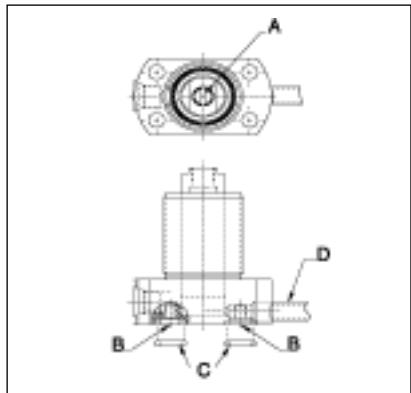

Figure 2
- Install the work supports by either threading into the fixture, using the accessory jam nuts, or bolting the flange onto the fixture. Mount the work support so that the plunger is at the approximate middle of its stroke when contacting the workpiece in the fixture. If the work support is to be hydraulically manifold mounted to the fixture through the bottom port, the port screw plugs and copper gaskets must first be removed (see item B, Figure 2). Lubricate the provided o-rings and install them (see Figure 2) in the counterbore around the port prior to mounting and bolting down the work support. Be sure that the o-rings do not get pinched or damaged during this mounting as leakage could result. To ensure that the manifold mounting does not leak, provide a fixture mounting surface with flatness within .003 inch (0.08 mm) and a surface roughness not to exceed 32 *uin. rms.* (*Ra 0,8*).
- When there is a risk of machining coolants, debris, and chips entering the cylinder via the breather vent (see Figure 2), plumb into the vent port with a line which runs to an area protected from chips, coolant, etc.